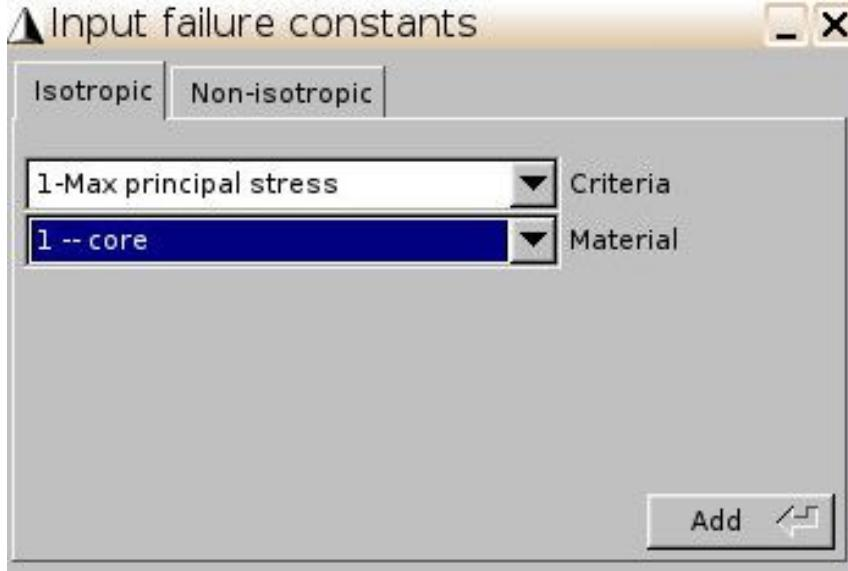
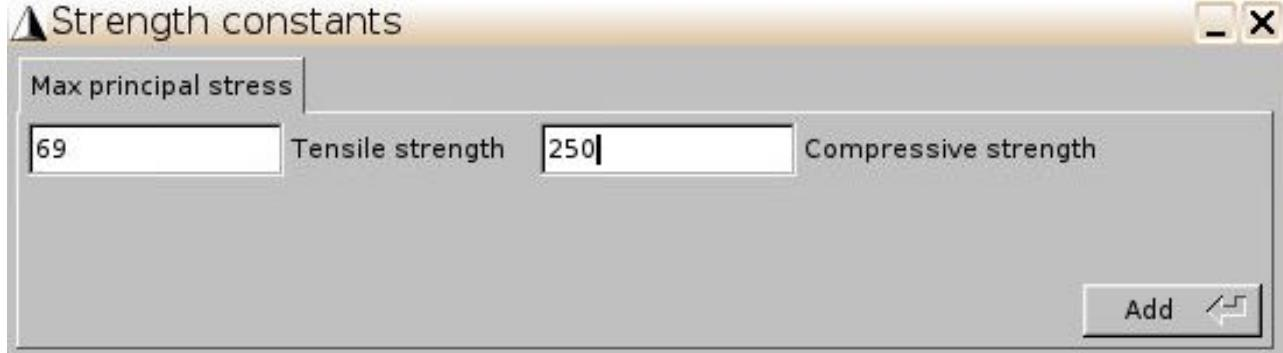
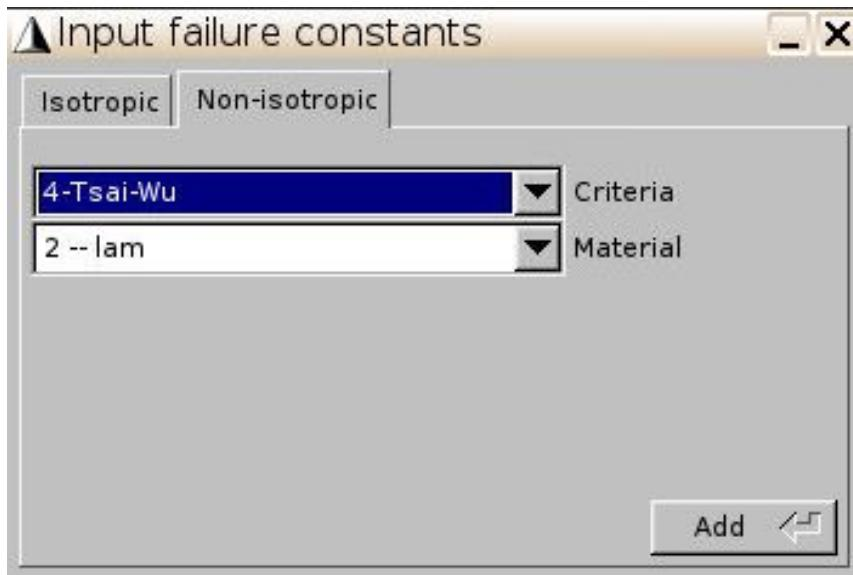

Fig. 6
Fig. 7
Fig. 8
- * Click SwiftComp->Static failure->Input failure constants. Assign failure criterion (max-stress) to the core first (Fig. 6.) and input the failure constants (Fig. 7.). Repeat this step to define the fiber failure constants as shown in Fig. 8 and 9. Note that the lam is non-isotropic material and we will use Tsai-Wu failure criterion in this example.